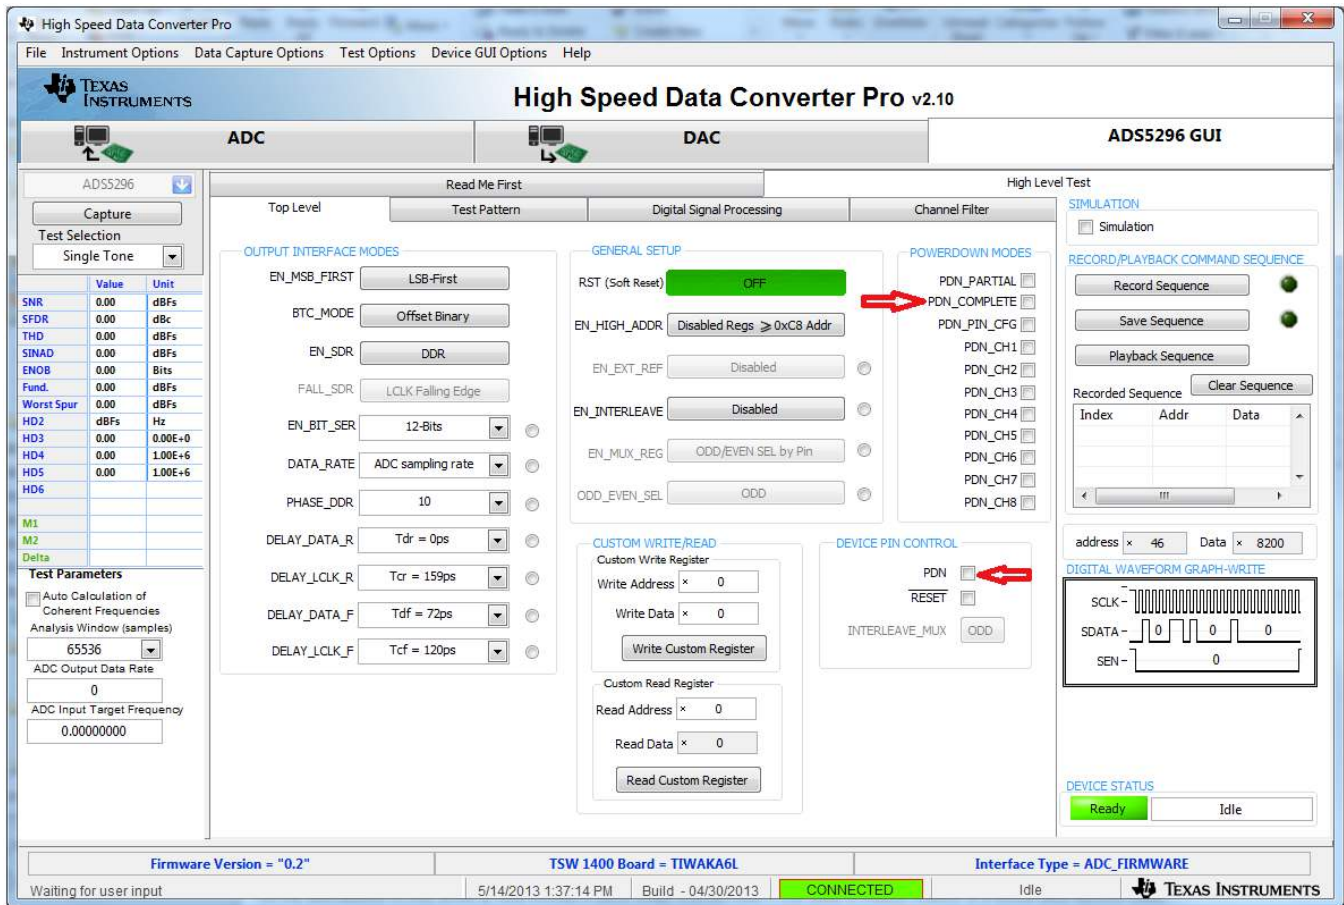

Figure 30. ADS5296 Plug-in GUI Setup (c)
Clicking on the *High Level Test* tab shows four sub-tabs: *Top Level*, *Test Pattern*, *Digital Signal Processing*, and *Channel Filter* as shown in Figure 30.
- Verify that communication between the ADS5296 EVM and the ADS5296 GUI is established by toggling either **PDN\_COMPLETE** checkbox or the **PDN** checkbox highlighted on Figure 30. Checking either box should make +5-V power supply current drop from ~850 mA to ~563 mA. If the DC current is not approximately 600 mA with both power down boxes unchecked, it indicates that the ADS5296 is not receiving the sampling clock. Please ensure that the 3-pin headers are configured as described in Section 3.2. Before continuing, ensure that both power down boxes are left unchecked. At this point, the GUI is confirmed to be communicating correctly with the EVM and testing can begin.